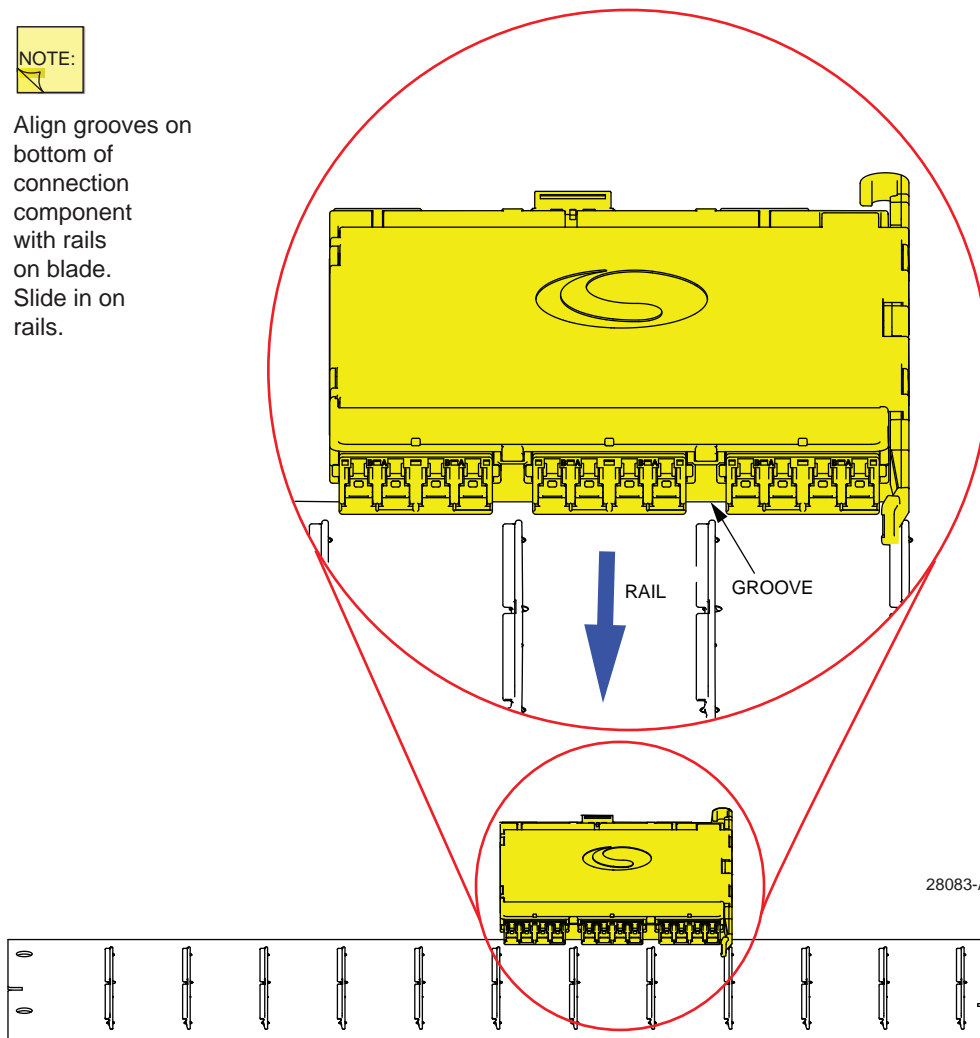

Figure 25. Positioning Connection Component on Rails
4. Position the component on the rails as indicated in Figure 25.